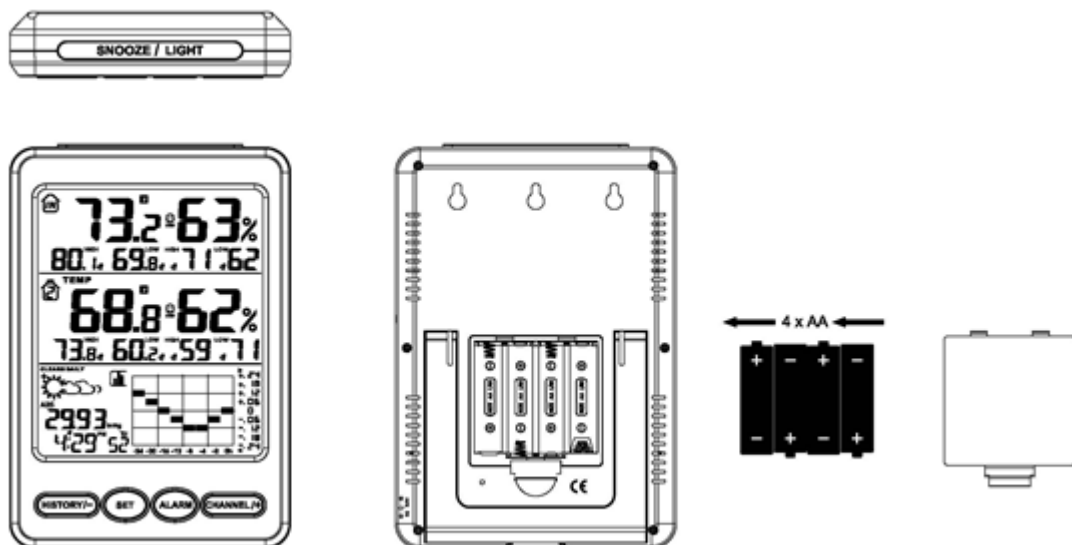

Figure 4
2. Remove the battery door on the back of the display, as shown in Figure 4. Insert four AA (alkaline or lithium) batteries in the back of the display console.